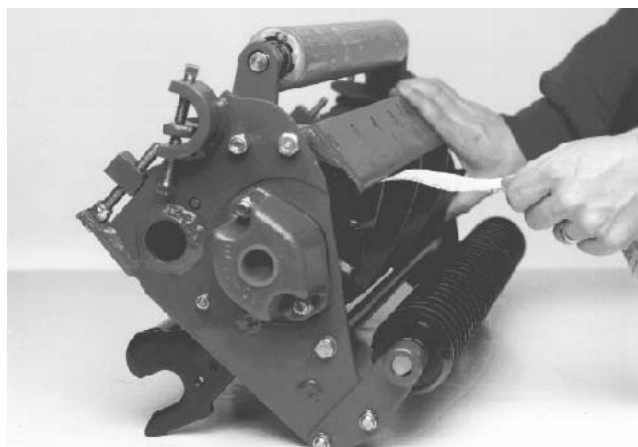

Figure 10
4. Insert 1" (25 mm) wide piece of newspaper perpendicular to the bedknife, and then rotate the reel slowly in the mowing direction to see if the reel cuts the paper – do this on both ends of the bedknife (Fig. 10).